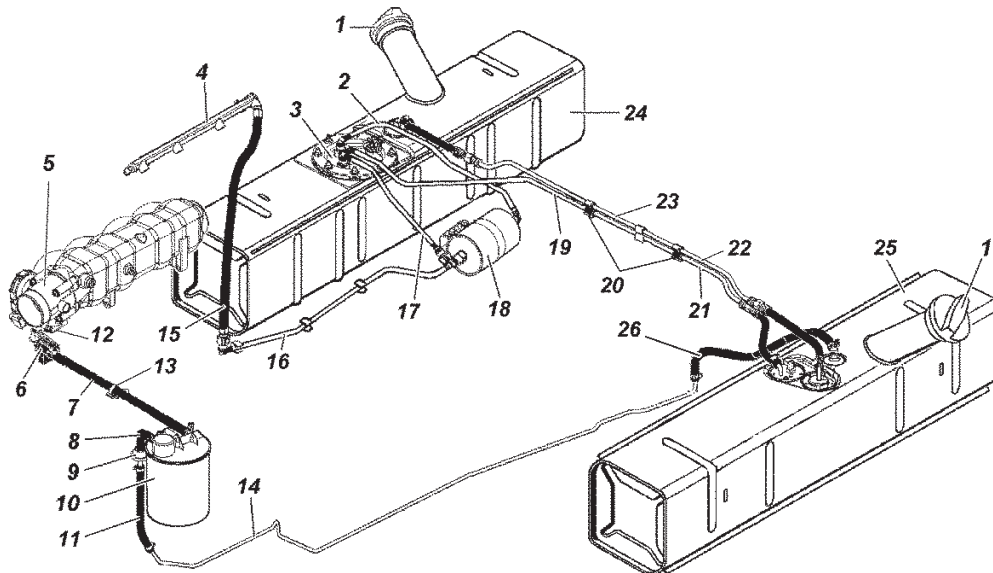

Fig. 9.8. The engine fuel system pattern:
The final fuel filter 18 (Fig. 9.8) is made in the form of a disposable solid element filter. When clogged, it must be replaced.
Fuel tanks 24, 25 (Fig. 9.8). Maintenance of the fuel tanks include periodic flushing of the fuel module filter (the right-side tank) and flushing of the tanks themselves.
- open the hatch in the body's floor above fuel module 3, turn off the separator 27 fastening bolts (Fig. 9.8), remove it and disconnect hoses from it;
The fuel module 3 (Fig. 9.8) is submersible and comprises the fuel priming pump, the strainer, the jet pump, the pressure controller, and the fuel tank level gage.